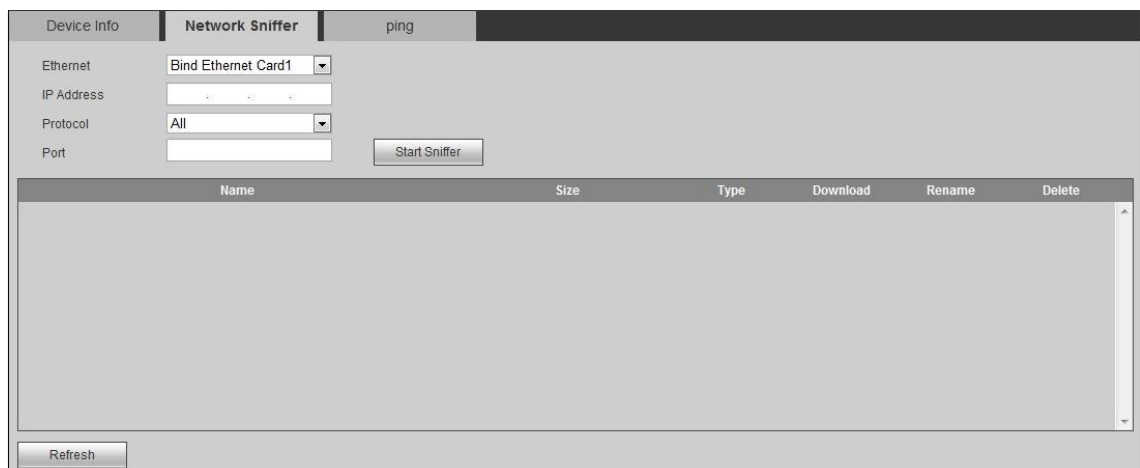

Figure 4-115
Step 1 Select "Info > Device Info > Device Info" and click "Network Sniffer" tab. The system displays "Network Sniffer" interface, as shown in Figure 4-115.